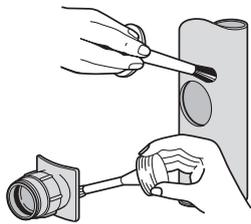

Fig.25c Applying cement
Step 7 – Apply 9100 Liquid Weld (solvent cement) to all mating surfaces using a clean brush (Fig.25c)